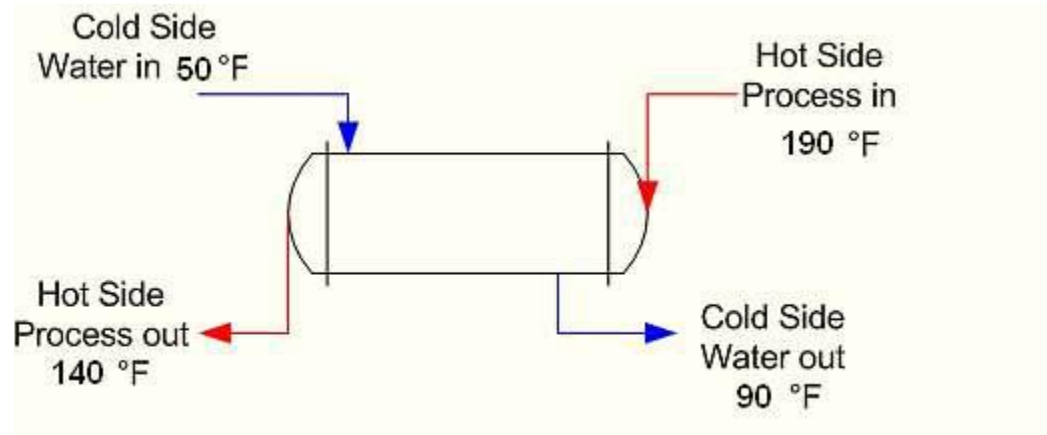

Figure 1: Heat Exchanger
- a) Estimate the heat exchanger area needed to cool 55,000 lb/hr of a light oil (specific heat = 0.74 Btu/lb.°F) from 190°F to 140°F using cooling water that is available at 50°F. The cooling water can be allowed to heat to 90°F. An initial estimate of the Overall Heat Transfer Coefficient is 120 Btu/hr.ft².°F. Also estimate the required mass flow rate of cooling water. The schematic for the heat exchanger is shown in Figure 1. [10]